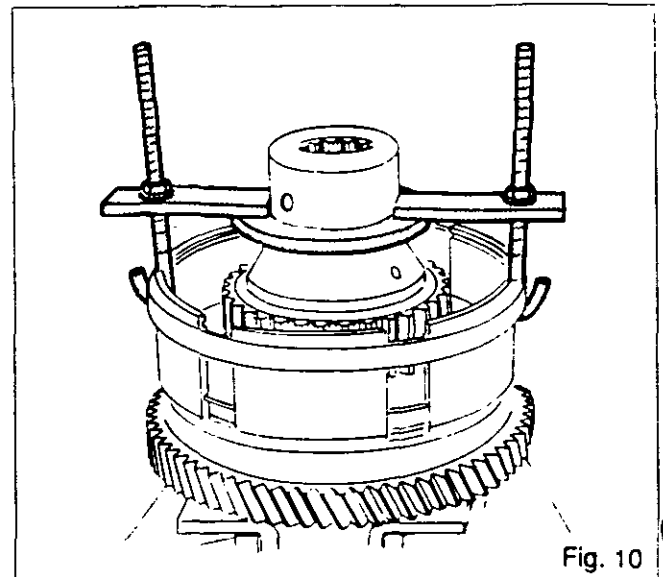
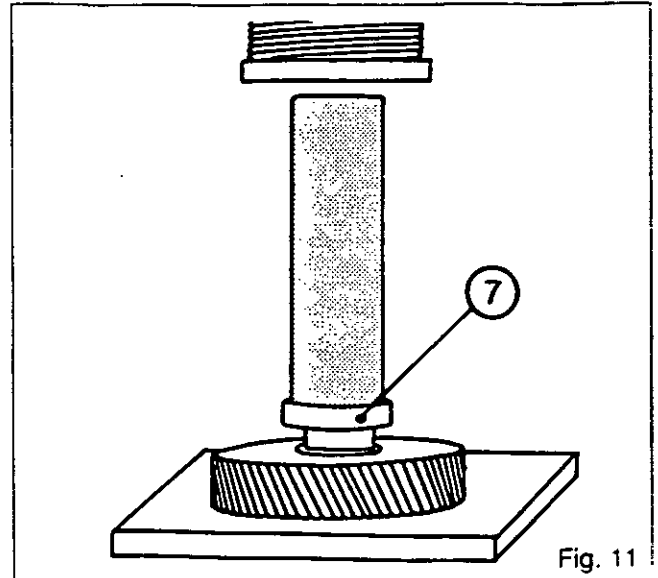
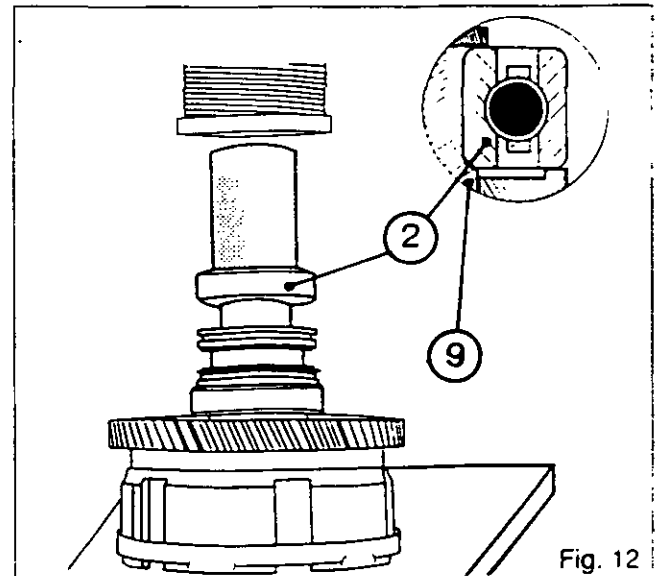

Fig. 10
Fig. 11
Fig. 12
29. Hold the spring (21) with a locally manufactured tool (Fig. 10). For tool see page 12.
30. Remove the screw (25) and the washer (26).
31. Remove the hub (24), the spring seat (22), the spring (21), the retainer (14) and the Belleville washer (13).
32. Extract the ball bearing (23).
33. Take out the piston (11).
34. Remove the O-rings (10) and (27).
36. Using a suitable device and a press, push the ball bearing (7) in as far as the shoulder (Fig. 11).
37. Place the seal rings (5) in their grooves. Ensure that they turn freely.
38. Slide the sleeve (4) over the rings, taking care not to damage them.
**Note: Position the larger diameter end of the sleeve towards the ball bearing (7).**
39. Using a suitable device and a press, push the ball bearing (2) in until it meets the shoulder of the support (9) (Fig. 12).
40. Fit the circlip (1).
41. Replace and lubricate the O-rings (10) and (27).
42. Lubricate the hole of the support housing (9) and the piston (11) and insert into the housing with a plastic mallet.
43. Fit the ball bearing (23) in the hub (24).
44. Refit the Belleville washer (13), the retainer (14), the spring (21), the spring seat (22) and the hub (24).
45. Compress the spring (21) with the tool (Fig. 10) (see section E). Fit the washer (26) and tighten the screw (25) smeared with Loctite 242 to a torque of 24 - 28 Nm.
46. Place the outer plates and the inner plates on the hub (24).
47. Fit the cover (20) with the circlip (18).